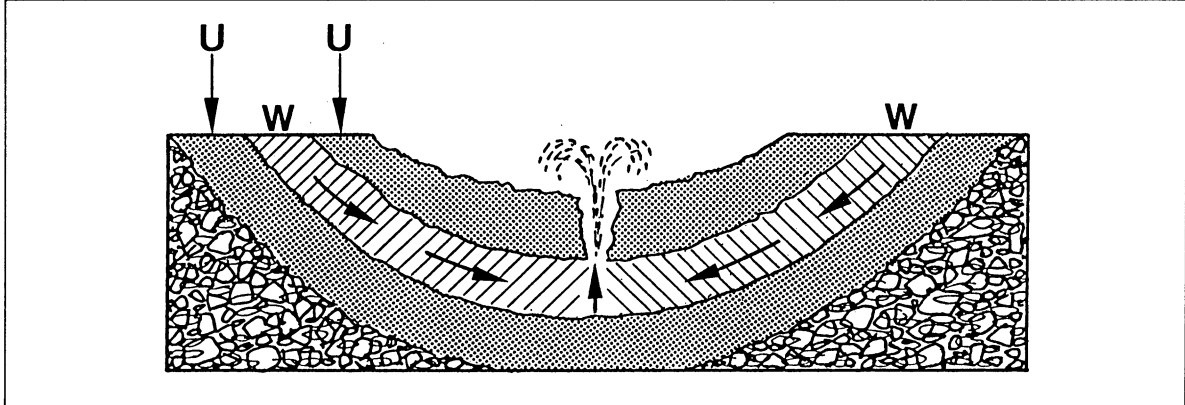

Fig. 3 Schematic drawing of an artesian well:
17. Explanation of the way an artesian well works (fig. 3):